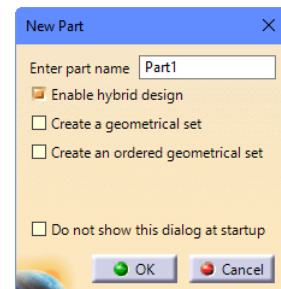

Figure 2-43 The **New Part** dialog box
- Next, choose **Start > Mechanical Design > Part Design** from the menu bar; the **New Part** dialog box is displayed, as shown in Figure 2-43.